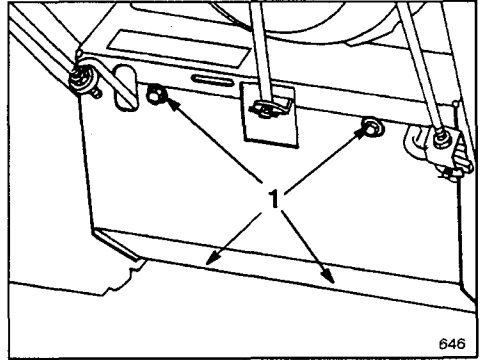

Figure 25
6. Remove (4) screws securing bottom cover to frame (Fig. 25). Remove bottom cover.
2. Remove (4) screws securing bottom cover to frame. Remove cover (Fig. 25).